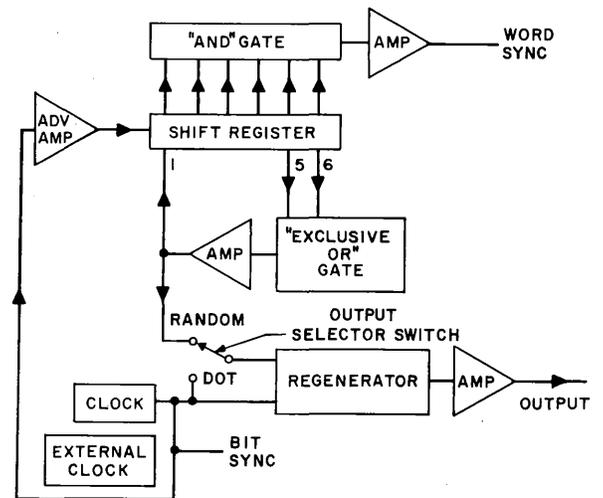

Fig. 3—63-Bit Word Generator—Block Diagram
2.04 BIT RATE Switch: This 11-position switch sets the bit synchronization speed of the 903-type DTS to the operating speed of the data set. When an external clock is used, the BIT RATE switch should be set to EXT CLOCK and the external clock (oscillator) should be connected to the EXT CLOCK jacks. With external clock the maximum bit rate is 50,000 bps. Since the external clock signal is used only to trigger the internal clock in the 903-type DTS, either a sine wave or a square wave with positive or negative pulses may be used. The external clock signal amplitude should be at least 6 volts peak-to-peak (Fig. 3).